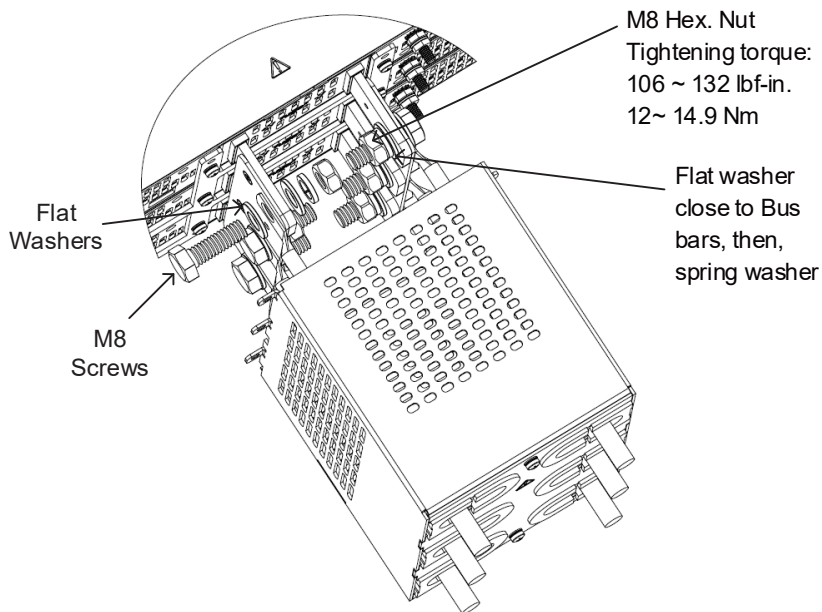

Figure 4-67: Assembly of 50V - 100V Wires
2. Fix the wires to the Bus bars as shown in Figure 4-67 (15kW is shown, it applies to 10kW as well).